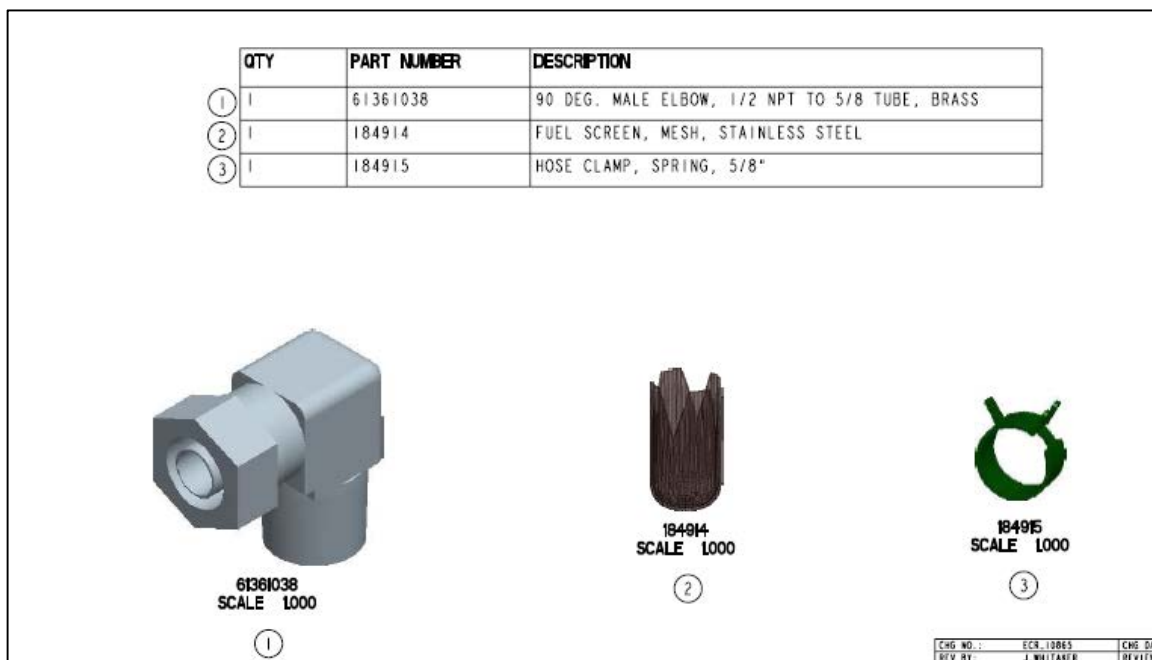

Figure 5
- 12) Refer to Figure 5 for the contents of kit TBB 184921.